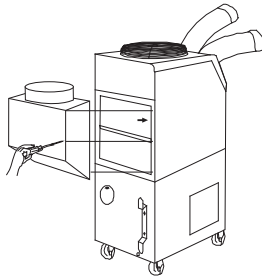

Figure 13
3. Use screws (enclosed inside of box with air adapter) to install the adapter on the air conditioner as shown in Figure 13.